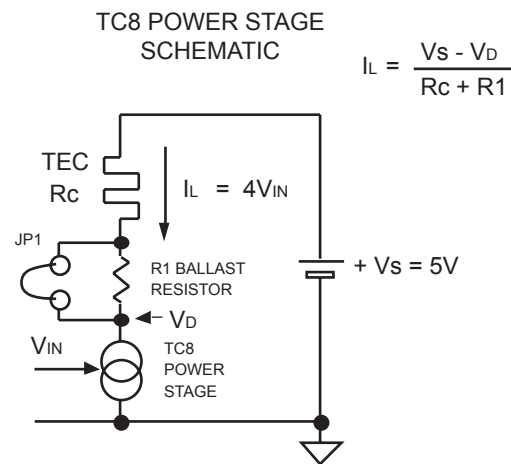
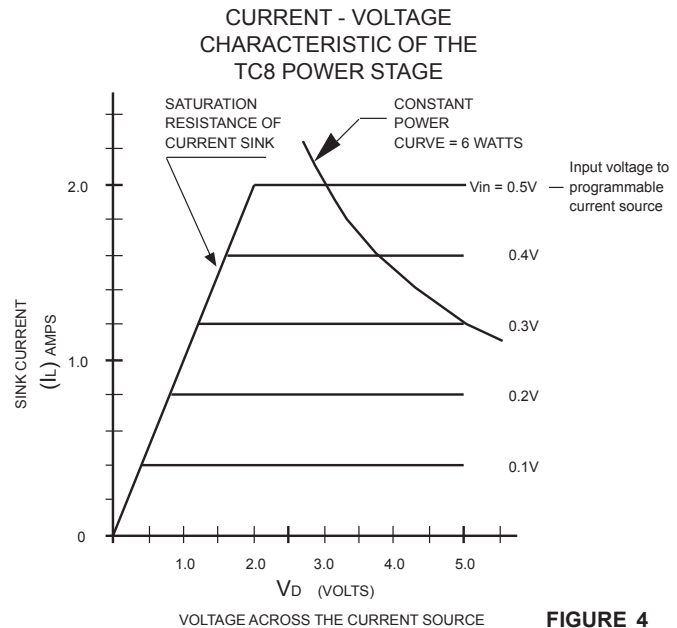
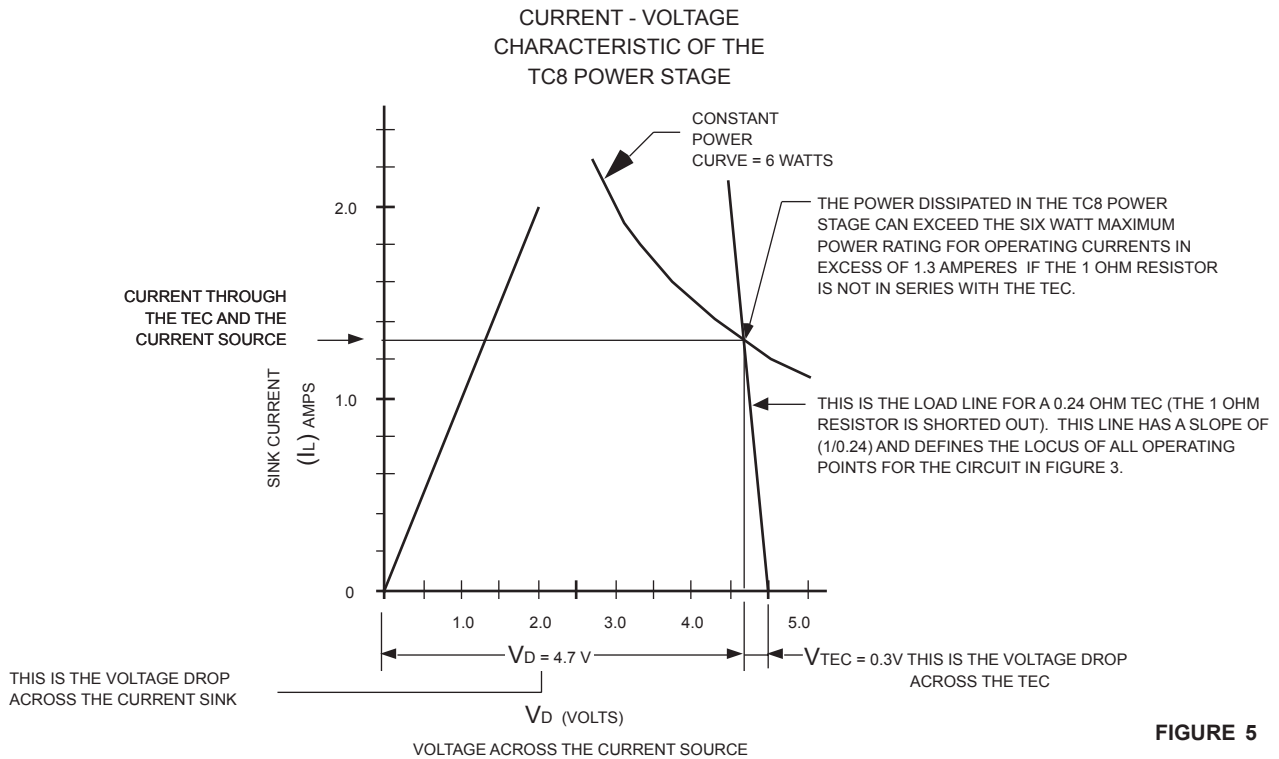
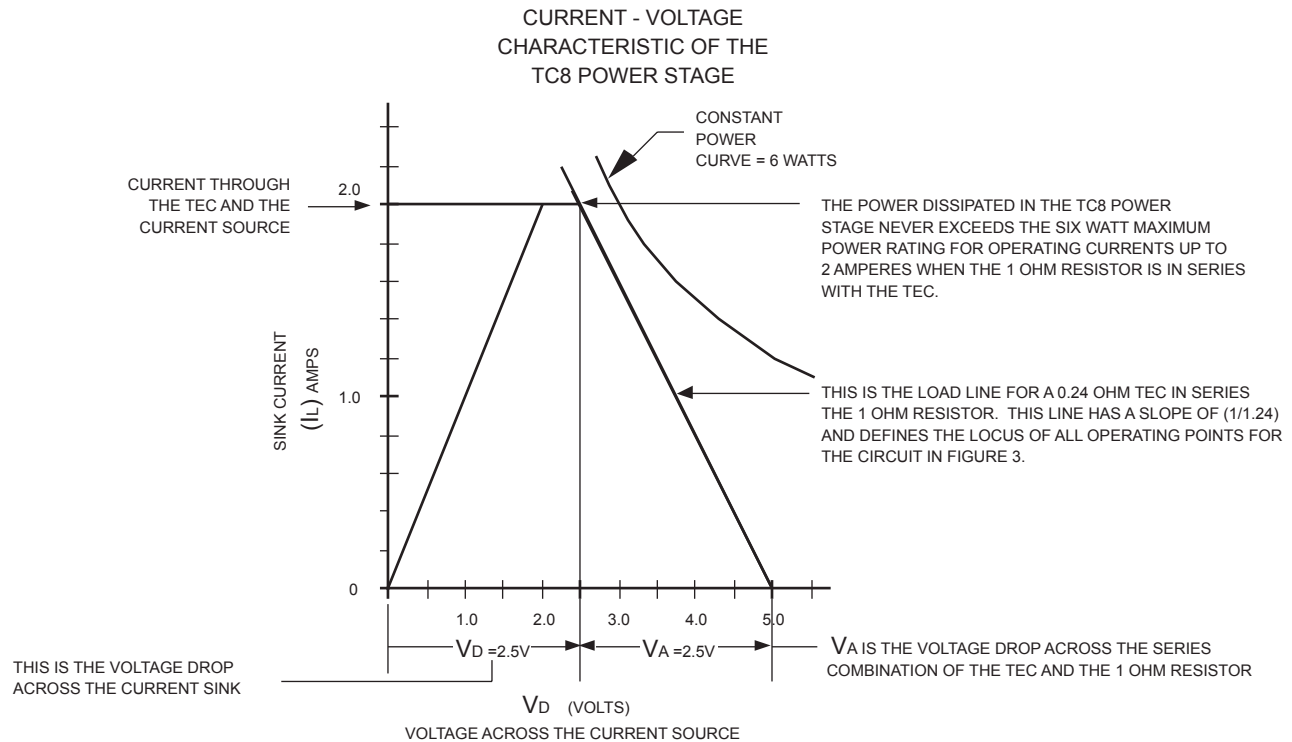

FIGURE 3
FIGURE 4
FIGURE 5
FIGURE 6
A one ohm power resistor (R1) that is in series with the TEC and the power driver, is incorporated on the TC8 P.C. board (Figure 3). This resistor should be used if a TEC with a very low resistance is used, otherwise it is possible to operate the power stage of the TC8 at power level in excess of the 6 Watt maximum rating. A jumper across connector JP1 will short R1 out if it is not needed. Note that the current flowing through the TEC, the 1 resistor (if used) and the TC8 power stage is the same and that the power supply voltage (VS) is divided between these three elements. A load line technique can be used to determine the voltage drop across each of these elements. This will show if the power dissipated in the TC8 current source can exceed the six watt limit which in turn will determine if the 1 resistor is needed. This is accomplished by superimposing a load line for the TEC on the Current-Voltage characteristic of the TC8 power stage illustrated in Figure 4.
From the TEC specifications determine the maximum voltage and current limits and calculate the equivalent resistance. For example: Suppose the TEC is rated at 2 Amperes maximum at a maximum operating voltage of 0.48 Volts. This is equivalent to a resistance of 0.24 . To obtain the load line draw a line, with a slope of 1 divided by the resistance, through 5 Volts on the (X) axis in Figure 5. This line defines the locus of operating point for the circuit in Figure 3 and is illustrated in Figure 5.
It can be seen from Figure 5 that the power dissipation in the TC8 current sink can be exceeded for TEC drive currents in excess of 1.3 Amperes. The problem can be rectified by placing the 1 Ohm resistor in series with the TEC (remove the jumper). Now the resistance in series with the current sink is 1.24 Ohms and the load line passes through 5 Volts on the (X) axis and has a slope of 1 divided by 1.24. This line defines the new locus of operating point for the circuit in Figure 3 and is illustrated in Figure 6.